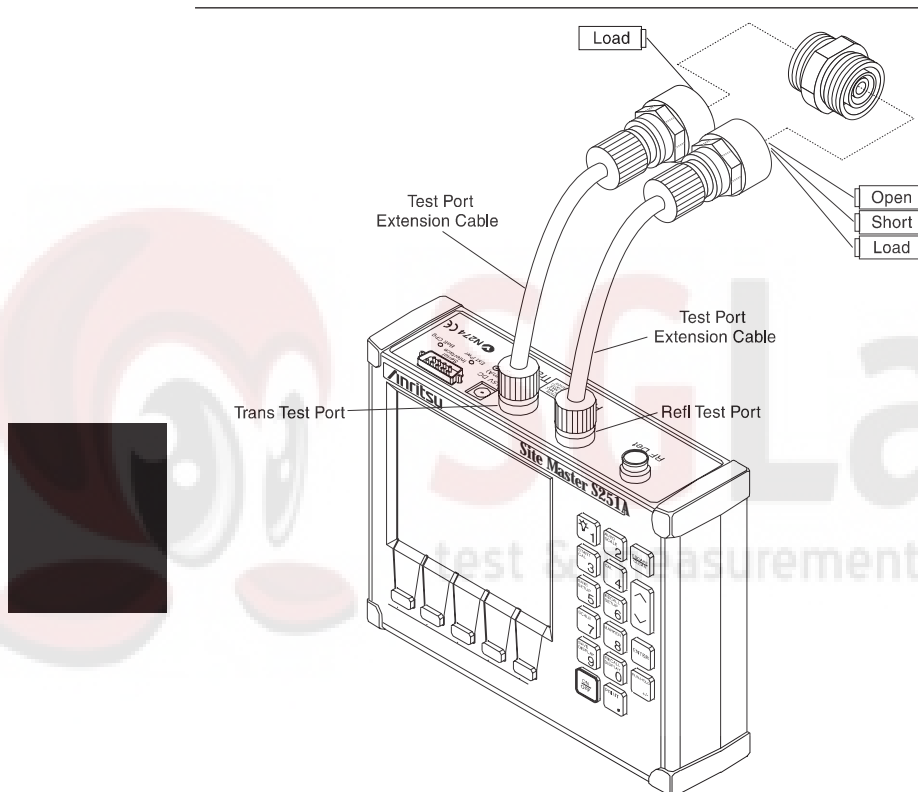

Figure 3-11. Two-Port Measurement Calibration Setup
- Step 9.** Connect the test port extension cables to the REFL and TRANS test ports as shown in Figure 3-11.